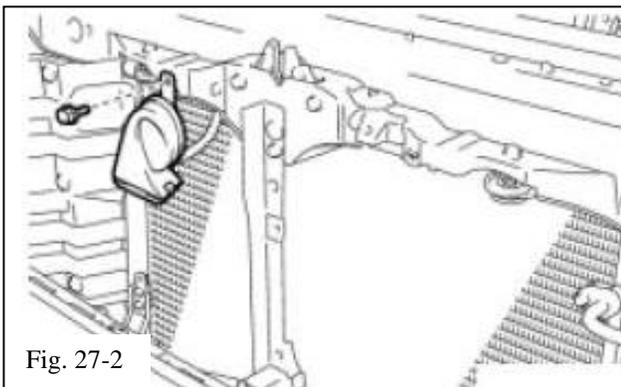

Fig. 27-2
- (1) Disconnect the high pitch horn connector.
- (2) Unbolt and remove the high pitch horn (Fig. 27-2).
- (3) Set the horn and bolt aside for reuse.